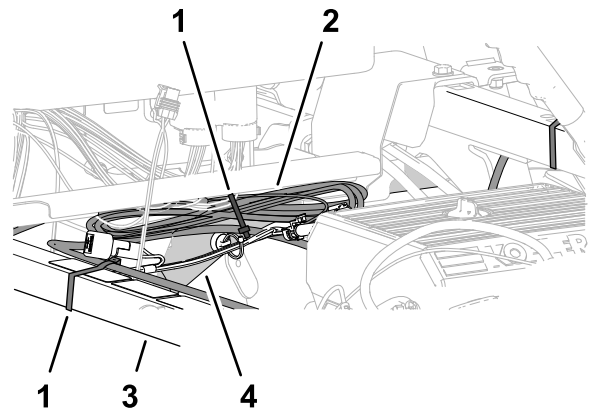

Figure 215
- Align the data harness to the shock-support tube, and secure the harness to the tube with a cable tie (Figure 215).
- Align the data-harness bundle to the right, upper-frame tube, and secure the harness bundle to the frame tube with a cable tie (Figure 215).
- Gather the excess length of the data harness against the right, upper-frame tube (Figure 215).